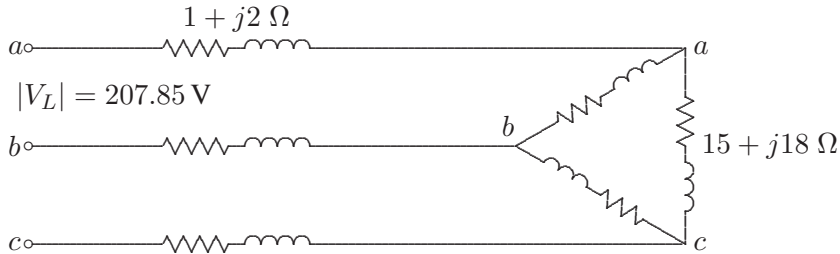

FIGURE 12
2.13. A balanced delta connected load of $15 + j18 \Omega$ per phase is connected at the end of a three-phase line as shown in Figure 12. The line impedance is $1 + j2 \Omega$ per phase. The line is supplied from a three-phase source with a line-to-line voltage of 207.85 V rms. Taking V_{an} as reference, determine the following: